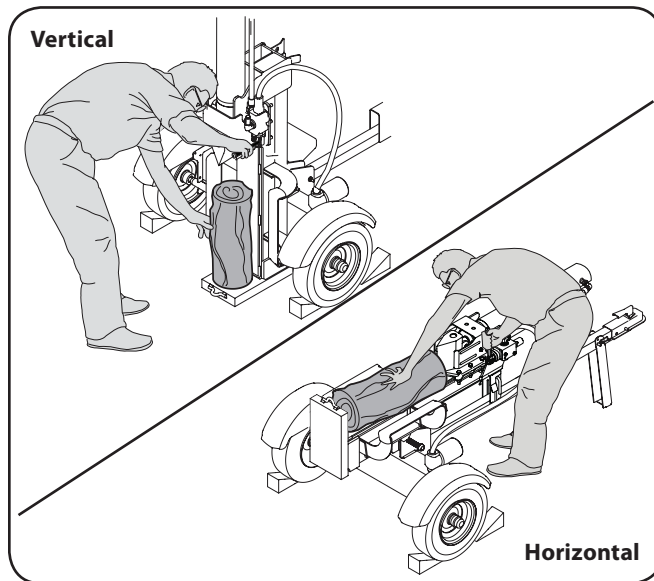

Figure 5-1
2. Block the front and back of both wheels. See Fig. 5-1.
3. To stabilize the log, place your left hand on the side of the log opposite the beam as shown in Fig. 5-1.